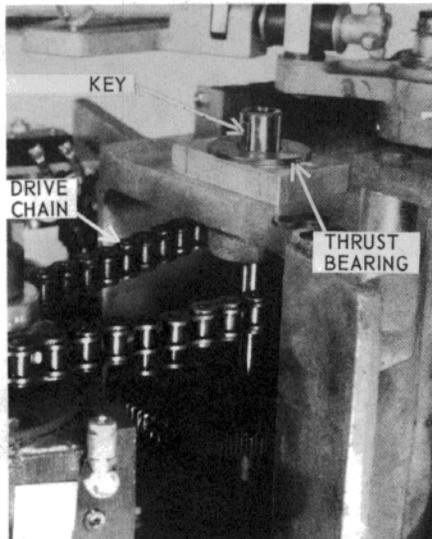
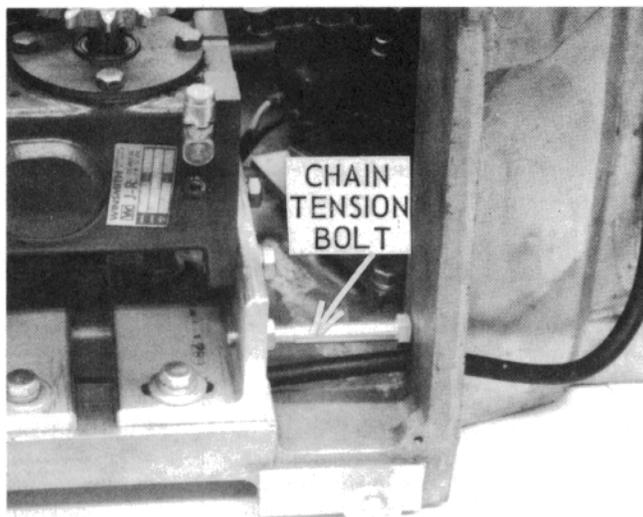

Figure 82 – Angling Shaft Thrust Bearing, Angling Crank Key, and Drive Chain
Figure 83 – Tension Adjustment
- 6.1.22 Reinstall the angling shaft thrust bearing and the angling crank key. Reassemble the drive chain (see Figure 82). Tension in the chain is adjusted by the chain tension bolt (see Figure 83). Allow approximately 1/4" deflection of the chain. **DO NOT PUT FINGERS NEAR MOVING PARTS.**